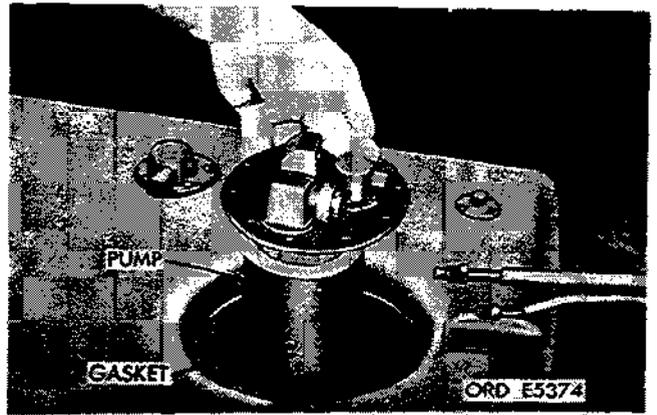

Figure 2-109. Remove pump and gasket (M151, M151A1, M151A1C, and M718).
(3) Lift fuel pump or fuel tank cover out of tank. Removal and discard gasket (fig. 2-109).
b. *Installation.* Clean gasket surfaces on fuel pump (M151, M151A1, M151A1C, and M718) or fuel tank cover (M151A2, M825, and M718A1), and fuel tank before installing pump or cover and gasket. Install pump or cover by reversing removal operations (3) back to (1). Refer to figures 2-109 and 2-108.
(1) Disconnect tube at carburetor.
(2) Using a pressure gage, hold tapered adapter to fuel tube.
(3) Start engine. Engine should normally operate due to sufficient fuel in carburetor. If engine does not start, continue operating starter until maximum reading on pressure gage is obtained. Correct pressure is from 4.9 to 5.4 psi. If pressure is incorrect, replace fuel pump.
(4) Recheck pressure and connect fuel tube.